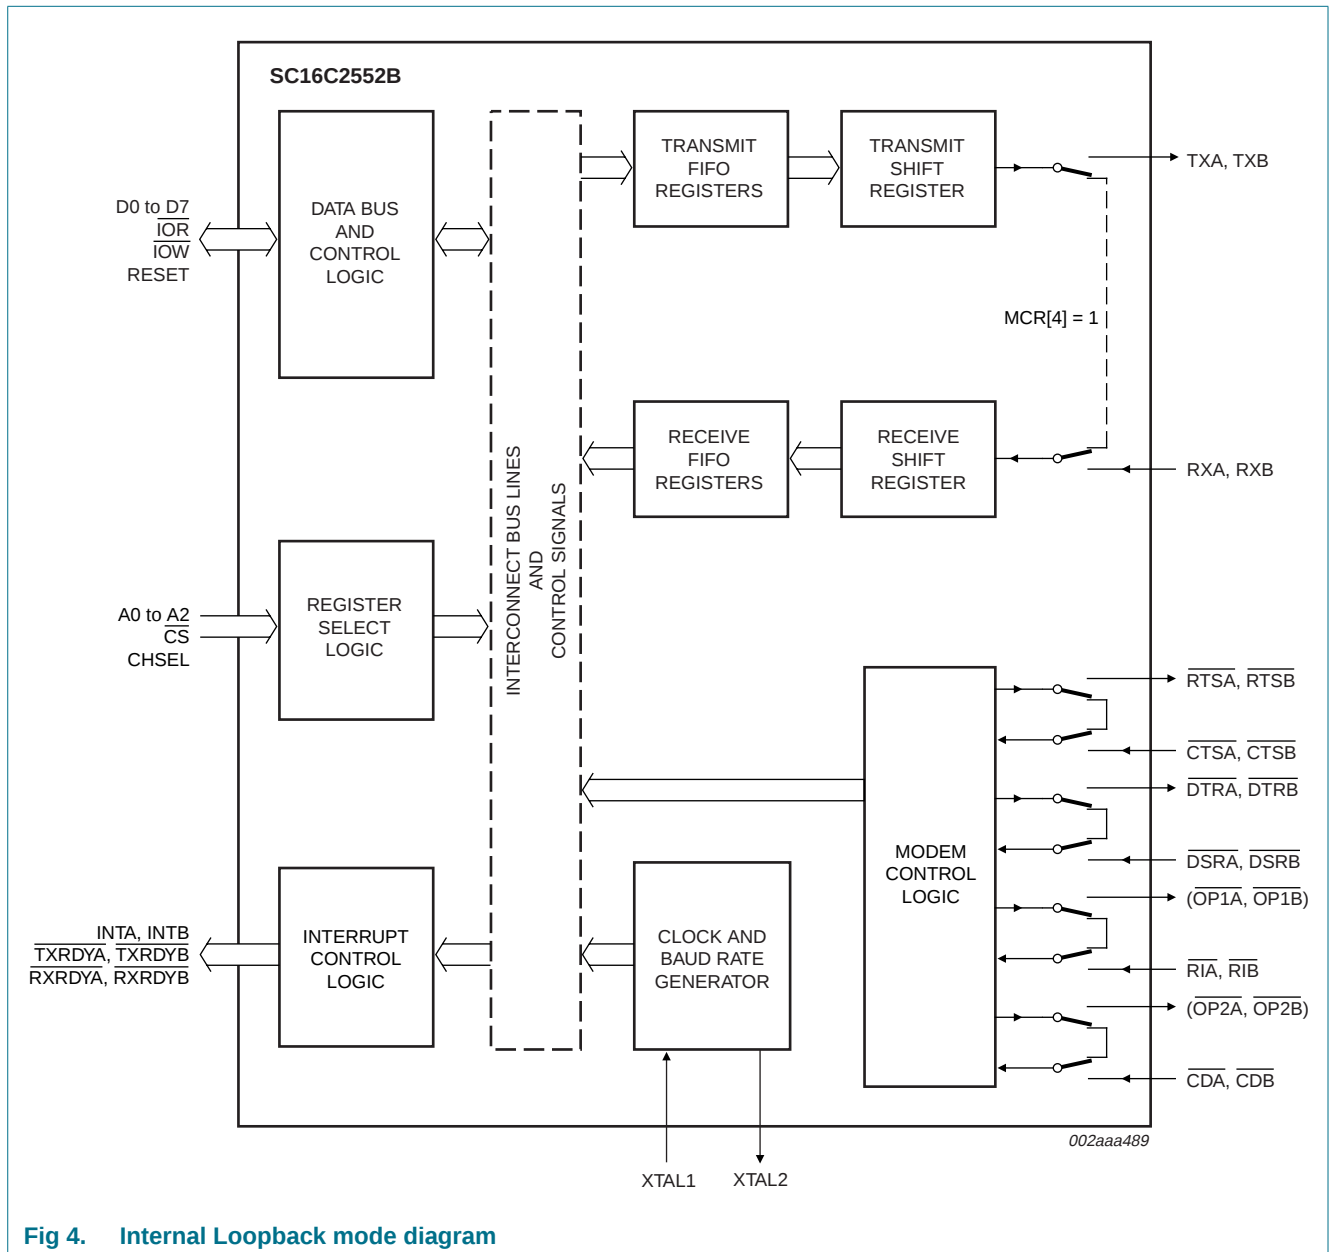

Fig 4. Internal Loopback mode diagram
The internal loopback capability allows on-board diagnostics. In the Loopback mode, the normal modem interface pins are disconnected and reconfigured for loopback internally. MCR[3:0] register bits are used for controlling loopback diagnostic testing. In the Loopback mode, INT enable and MCR[2] in the MCR register (bits 3:2) control the modem $\overline{RI}$ and $\overline{CD}$ inputs, respectively. MCR signals $\overline{DTR}$ (bit 0) and $\overline{RTS}$ (bit 1) are used to control the modem $\overline{DSR}$ and $\overline{CTS}$ inputs, respectively. The transmitter output (TX) and the receiver input (RX) are disconnected from their associated interface pins, and instead are connected together internally (see Figure 4). The $\overline{CTS}$, $\overline{DSR}$, $\overline{CD}$, and $\overline{RI}$ are disconnected from their normal modem control inputs pins, and instead are connected internally to $\overline{RTS}$, $\overline{DTR}$, OP2 and OP1. Loopback test data is entered into the transmit holding register via the user data bus interface, D0 to D7. The transmit UART serializes the data and passes the serial data to the receive UART via the internal loopback connection. The receive UART converts the serial data back into parallel data that is then